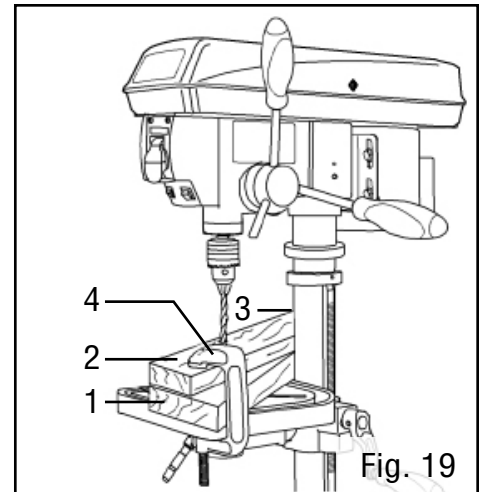

Fig. 19
DRILL PRESS ON / OFF SWITCH (FIG. 19)
1. To turn the drill press ON, insert the yellow safety key (Fig. 19 - 1) into the switch housing (Fig. 19 - 2). As a safety feature, the switch cannot be turned ON without the safety key.
4. To lock the switch in the OFF position, remove the safety key (Fig. 19 - 1) from the switch. Store the safety key in a safe place away from the reach of children.
LIGHT & LASER LINE ON/OFF SWITCHES (FIG. 19)
The light switch (Fig. 19 - 3) is located on the lamp cover.
The laser switch (Fig. 19 - 4) is located below the ON/OFF switch on the right.